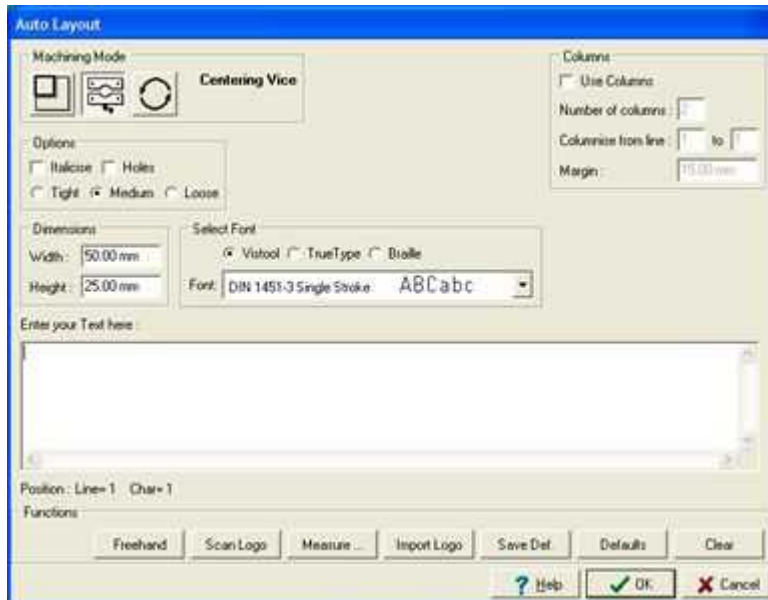

Figure 1 This Dialogue Box may vary slightly depending on the model and options installed on your machine.
You will now see the Opening Form Dialogue Box. Left click on "Auto Layout". The Auto Layout screen will be shown (see Figure 1).
- 1 As we are engraving a flat trophy plate held within the centre vice, Left Click on the Centre Vice Icon in the Machine Mode Box, as Figure 1.